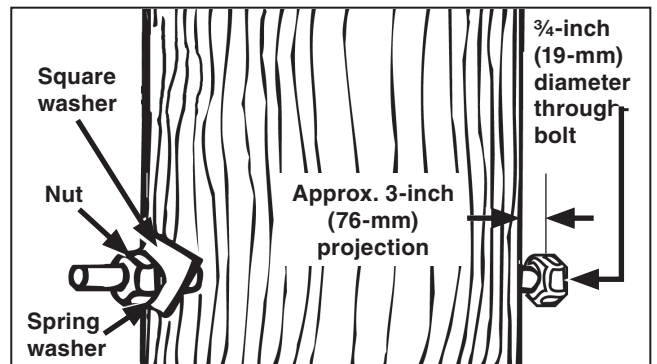

Figure 4. Installing through-bolts.
**STEP 2.** Insert a  $\frac{3}{4}$ -inch (19-mm) diameter through-bolt (not furnished) into each hole as shown in Figure 4.